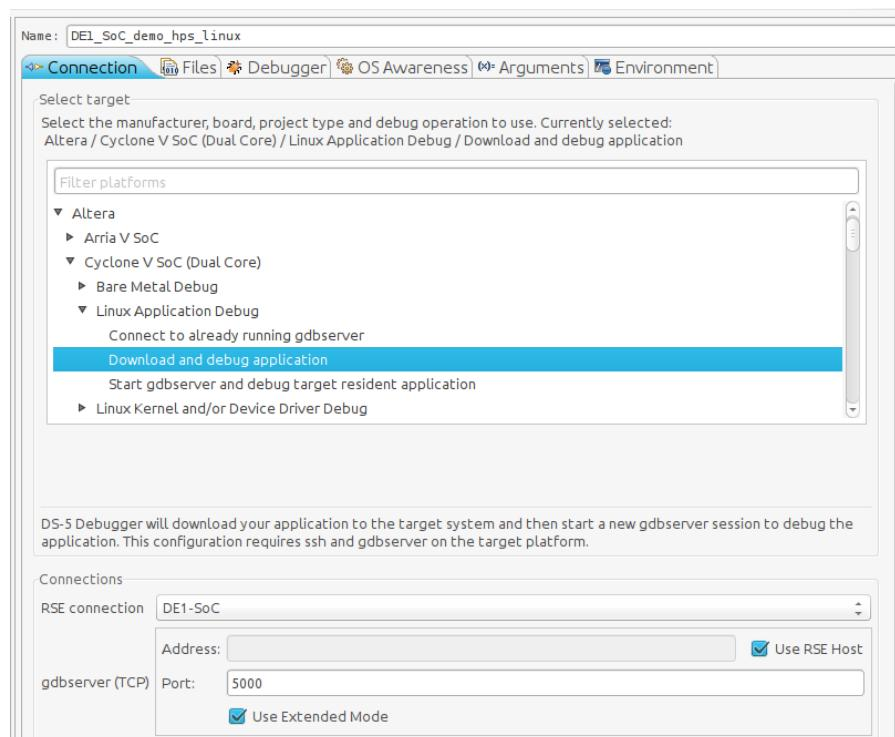

Figure 13-14. Debug Configuration "Connection" Tab
- b. Set the “RSE connection” to “DE1-SoC”. This is the remote system connection we created earlier. You should have something similar to Figure 13-14.